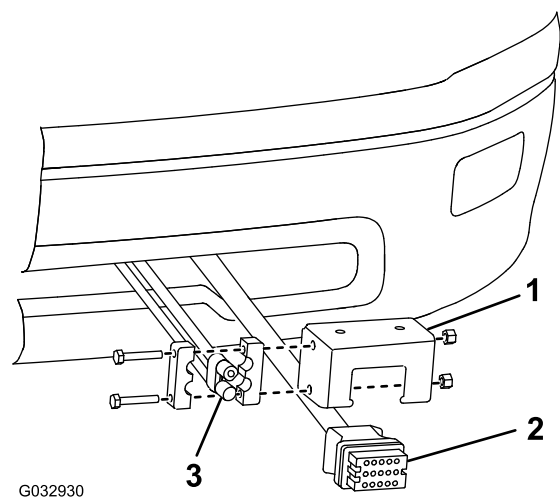

Figure 20
27. Mount the truck-side, wire-harness plow connector to the lower part of the bumper using the control-harness mounting-bracket (Figure 20).
28. Mount the black and red power/ground connector to the control harness mounting bracket (Figure 20).